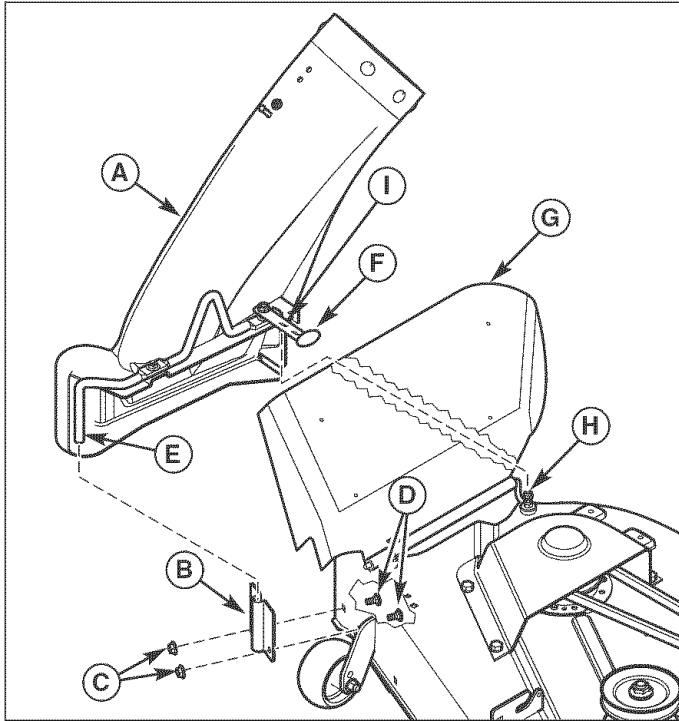

Figure 9. Install Lower Chute
1. Install mounting plate (A, Figure 9) to mower deck as shown. Secure with 5/16-18 x 5/8 carriage bolts (C) and 5/16-18 locknuts (B).
2. Lift discharge deflector (F).
3. Insert lower chute rod (D) into mounting plate (A).
4. Pull rubber strap (E) below discharge deflector, and secure by placing hole (H) over locknut (G).